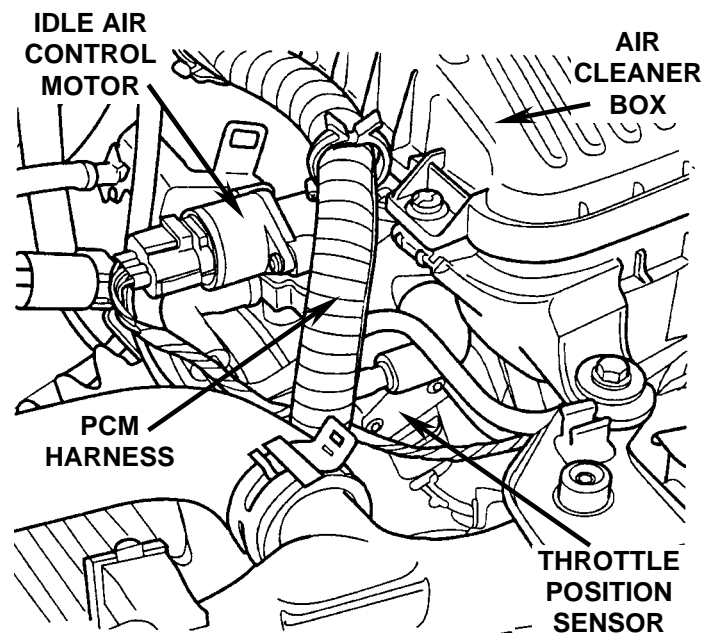

Figure 1
2. Disconnect the throttle body idle air control (IAC) motor and throttle position sensor (TPS) electrical connectors (Figure 1).
6. Remove the Powertrain Control Module (PCM) wiring harness from the two clips on the air cleaner box (Figure 1).
7. Remove the two (2) air cleaner box fasteners.
22. Secure the PCM harness in the clips on the air cleaner box (Figure 1).
25. Connect the throttle body IAC and TPS electrical connectors (Figure 1). Secure the harness to the air cleaner box with the push clip.